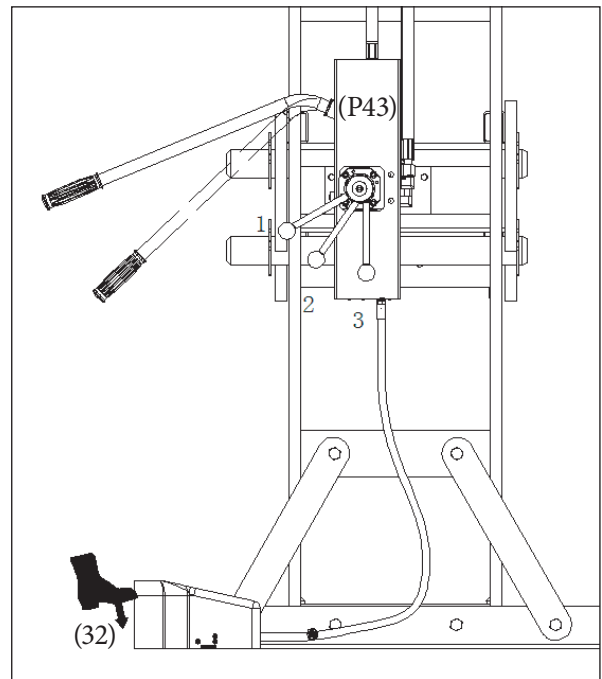

Fig. 18
- Turn the handle lever of selector valve to position 3, then depress the air foot valve (32); the piston rod will extend quickly. When the saddle gets close to the work piece, change to manual operation (refer to Fig. 18).